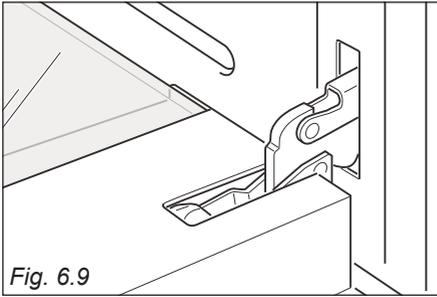

Fig. 6.9
- Open the door to the full extent (fig. 6.9).